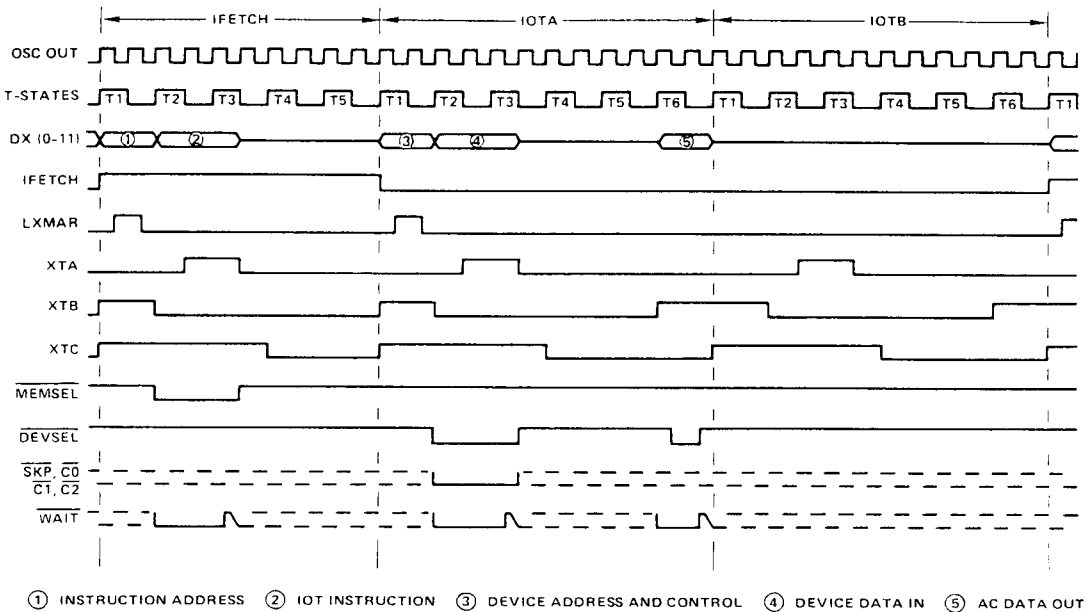

FIGURE 10 – Input-output instruction timing
Programmed Data Transfer is the easiest, simplest, most convenient and most common means of performing data I/O. For microprocessor applications, it may also be the most cost effective approach. The data transfer begins when the HM-6100 fetches an instruction from the memory and recognizes that the current instruction is an IOT (2). This is referred to as an IFETCH and consists of five (5) internal states. The HM-6100 sequences the IOT instruction through a 2-cycle execute phase referred to as IOTA and IOTB. Bits 0 - 11 of the IOT instruction are available on DX0 - 11 at IOTA \wedge LXMAR (3). These bits must be latched in an external address register. DEVSEL is active low to enable data transfers between the HM-6100 and the peripheral device (4 & 5). Input-Output Instruction Timing is shown in Figure 10. The selected peripheral device communicates with the HM-6100 through 4 control lines - C0, C1, C2 and SKP. In the HM-6100 the type of data transfer, during an IOT instruction, is specified by the peripheral device(s) by asserting the control lines as shown in Tables 5-1 and 5-2.